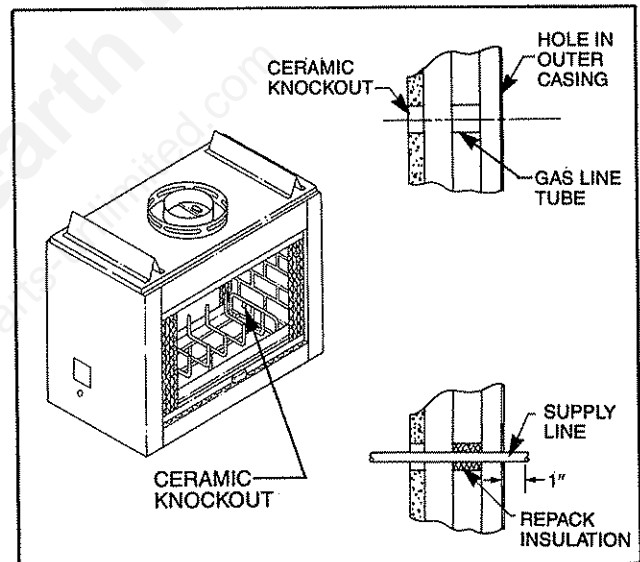

Fig. 23. Install iron pipe gas line through provided hole in right side of fireplace.
NOTE: The gas pipe should not come in contact with any wood structures until it has reached a point at least one (1) inch away from the fireplace side. (See Fig. 23 for installation clarification.)